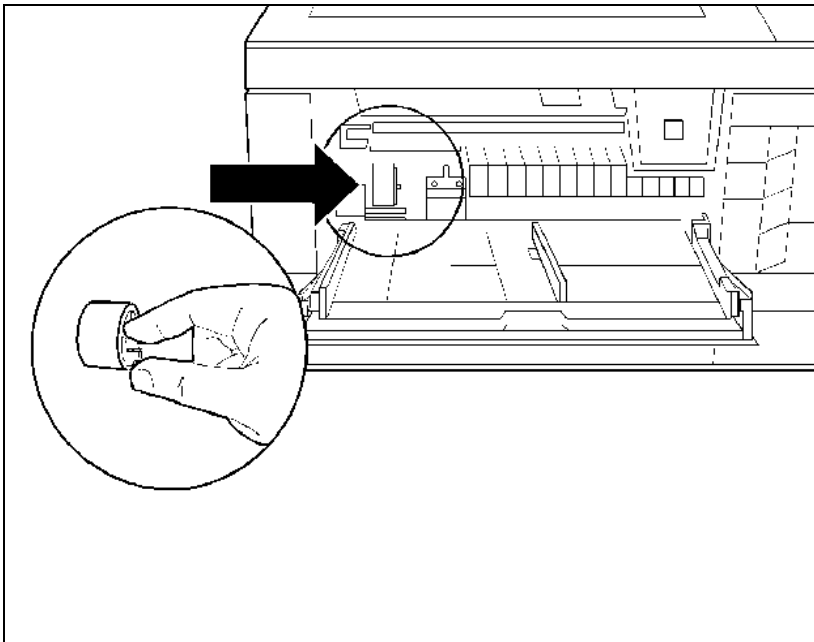
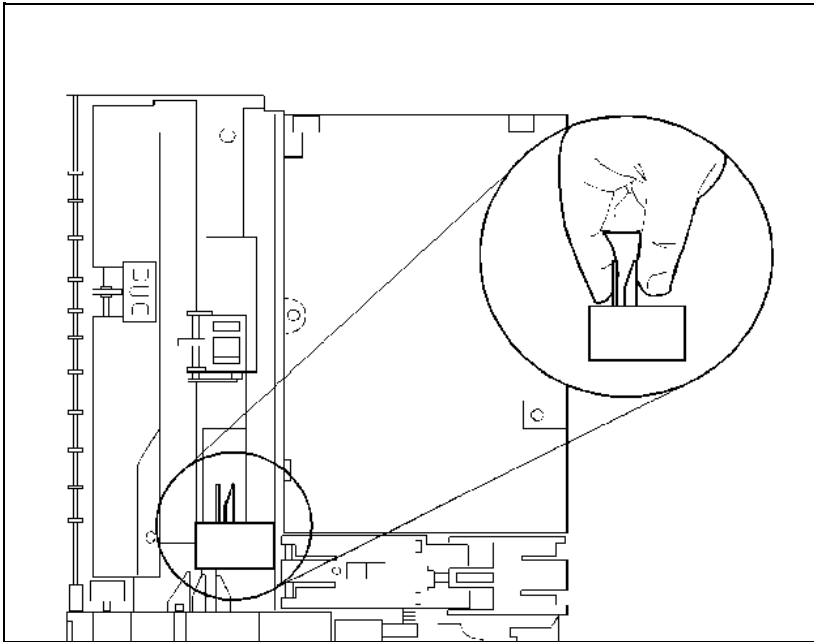
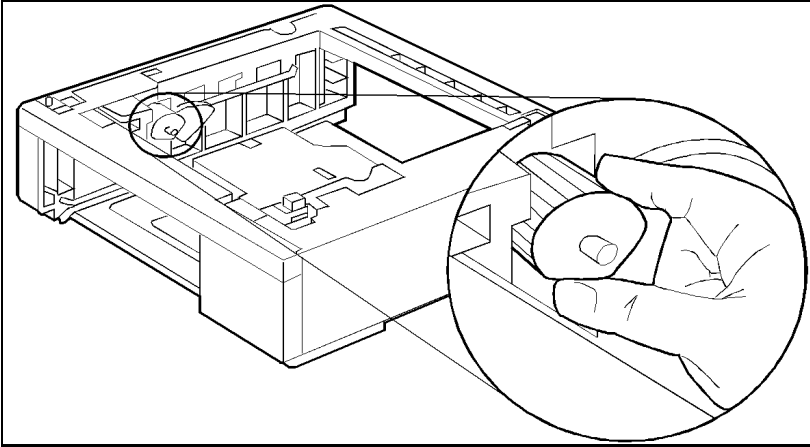

Figure 4-5 Removing the MP Tray (Tray 1) Pickup Roller
Figure 4-7 Removing the PC (Tray 2) Pickup Roller (printer is turned on its left side)
Figure 4-8 Removing the Lower Cassette Pickup Roller
Each paper source has a Paper Pickup Roller that should be replaced when paper no longer feeds reliably. The MP Tray (Tray 1) Paper Pickup Roller is shown in Figure 4-5. The PC tray (Tray 2) Pickup Roller is shown in Figure 4-7, the LC (Tray 3) Pickup Roller is shown in Figure 4-8.
- 3** Remove the roller by pinching the plastic retaining clip at the side of the roller and sliding it off its shaft (see Figure 4-5). (You may find it easiest to pinch the clip with your *right* hand and use your *left* index finger to slide the roller to the right.)
The PC Pickup Roller is underneath the printer (see Figure 4-7). To remove the Pickup Roller:
- 2 Press the retainers that hold the roller in place (see Figure 4-8).